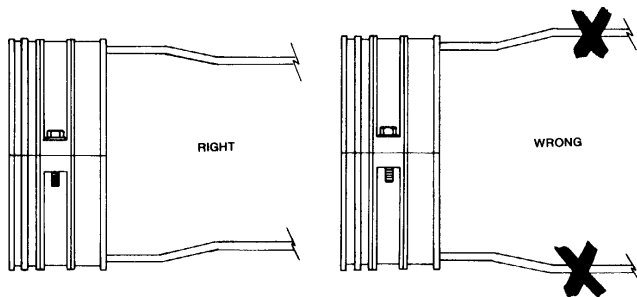

FIGURE 22 - CORRECT POSITION OF TORQUE BAR
6.22 After Feeder cable end plate is in place apply the bottom torque bar. The offset in the torque bar should face the splice bundle. Use the free end of the torque bar to mark the area on the tip cables where the end plate will be placed. (Figure 22)